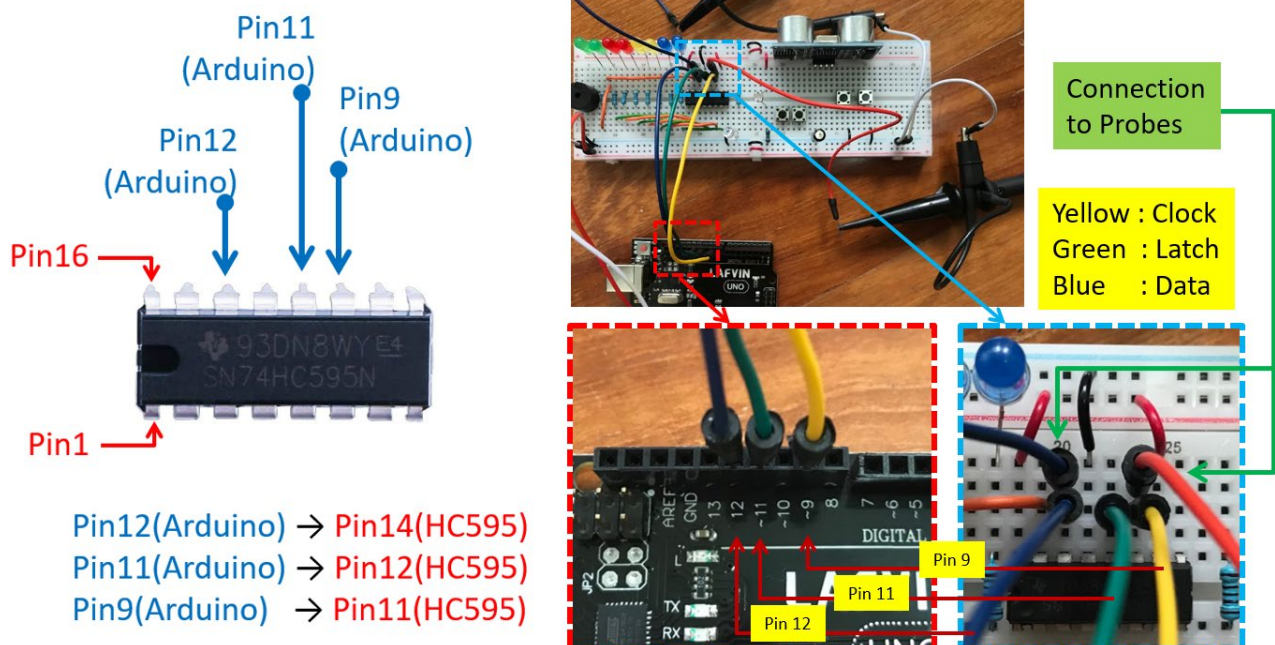

Fig. 19: Connecting Clock, Latch and Data signal of 74HC595 to Arduino Processor. Plus probe connections.
**#Task:** Connect the circuit as per Fig 19. You only need to connect the Clock, Latch and Data line. The power, ground and other control signals are already connected beforehand. This is shown as the Yellow, Green and Dark Blue wires in the Photo, note that the graphical illustration uses a different colour scheme. Also, probe the Clock and Data signal as shown in the photo in Fig 19. **Note: Pin9, 11 and 12 of Arduino should NEVER be connected directly to Ground or Vcc! The large current draw will damage the board and ICs.**
- Ensure that connection shown in Fig. 19 is done.